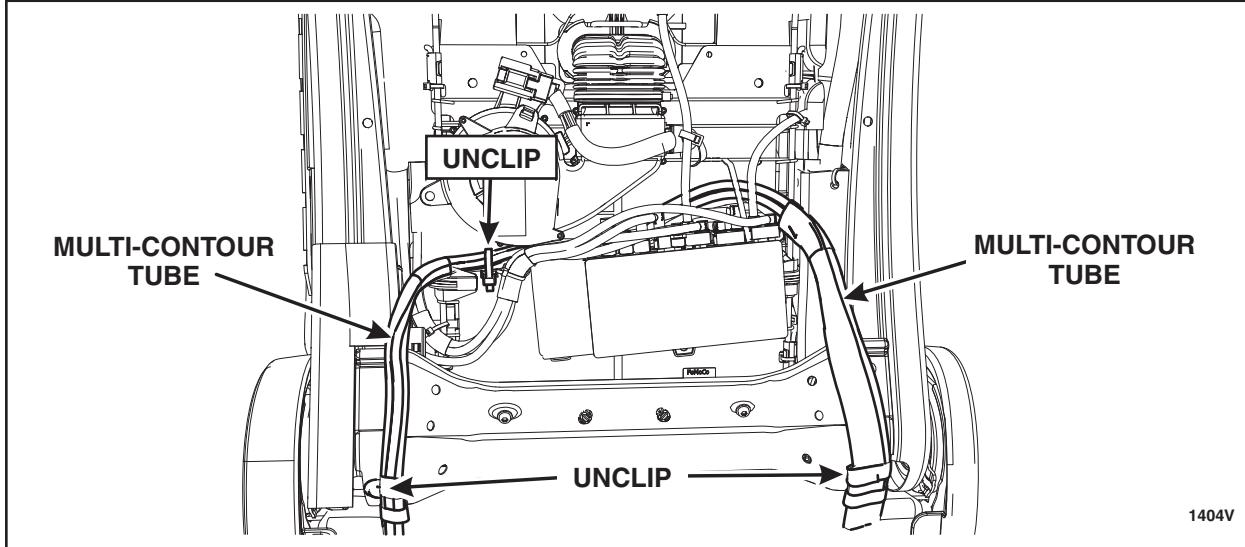

FIGURE 8
11. If equipped, unclip the multi-contour module tubes from the backrest frame. See Figure 8.